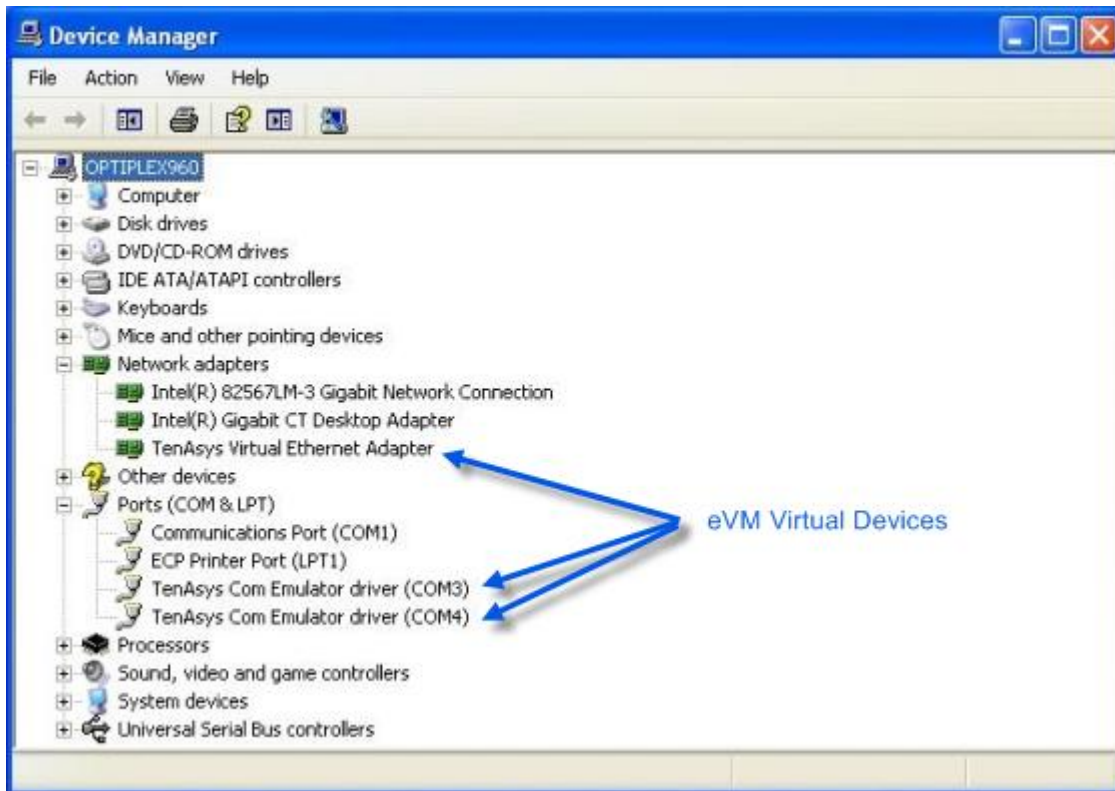

Figure F. 33 - Windows Device Manager Showing eVM Virtual Devices
31. Finally, let's look at the devices that are now in the Windows host system. Open Windows Device Manager by clicking Windows **start**, right-clicking **My Computer**, and clicking **Properties**. Then in the *System Properties* dialog, click the **Hardware** tab at the top and click the **Device Manager** button. If you expand the **Network adapters** node and **Ports (COM & LPT)** node, you can see that the TenAsys Virtual Ethernet Adapter has been installed, as well as, the two virtual serial ports, Figure F. 33. The property of each virtual serial port was to use the next available COM device, so you can see that in this system configuration, it resulted in the virtual serial ports becoming COM3 and COM4.